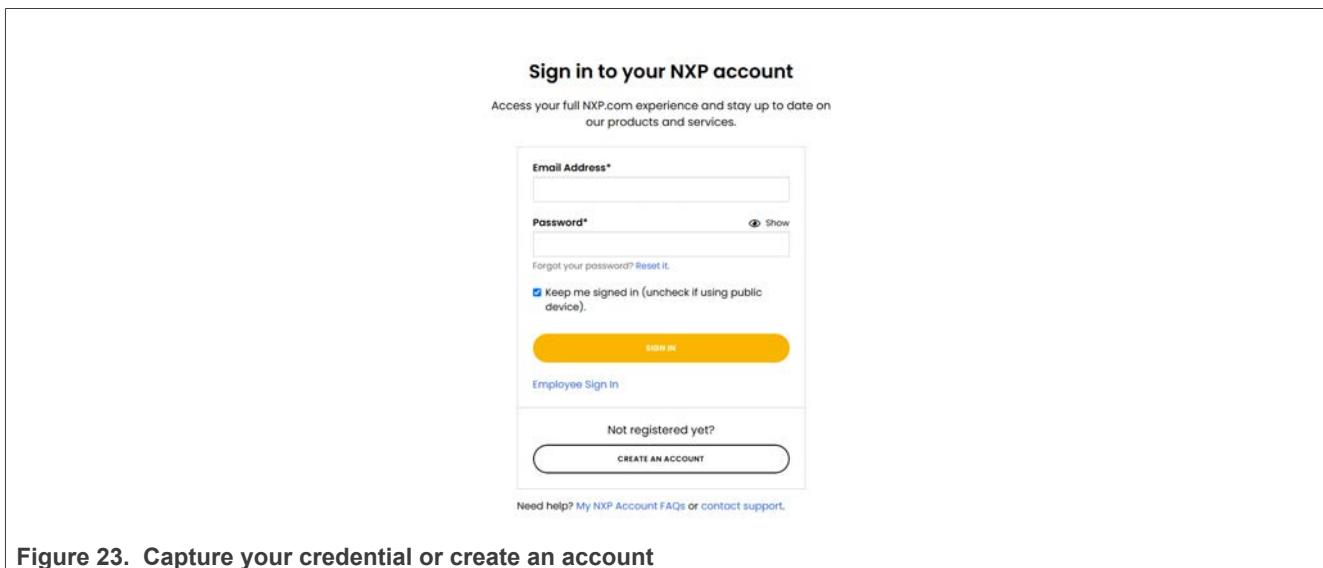

Figure 23. Capture your credential or create an account
Step 2 – Capture our credentials or click **Create an account** (Figure 23).